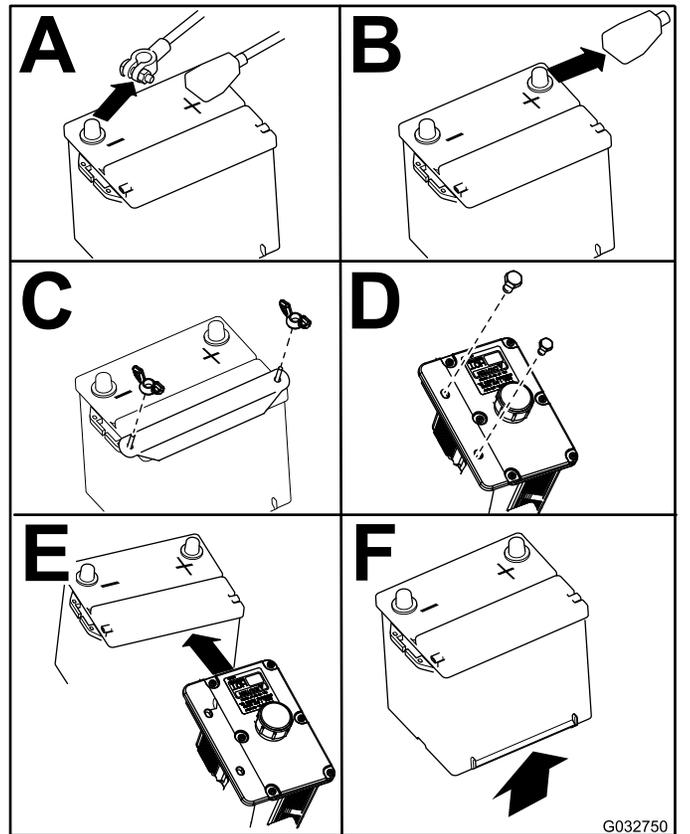

Figure 72
4. Remove the battery as shown in Figure 72.